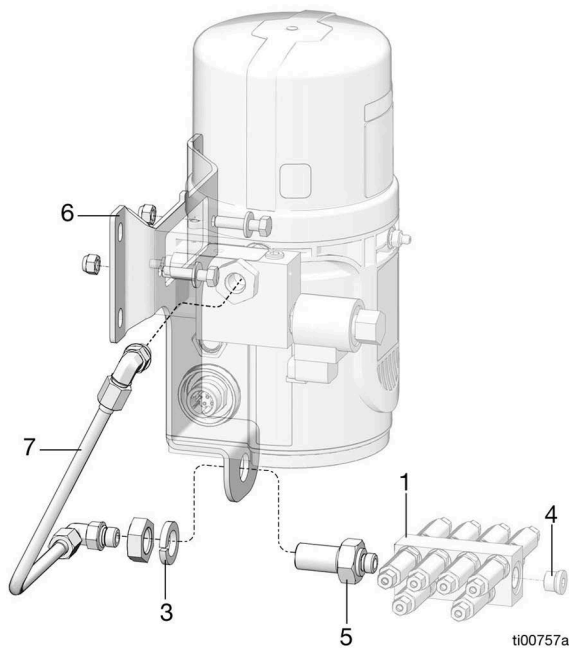

FIG. 7
The reference numbers in the following instructions refer to FIG. 7.
2. Install the new mounting bracket (6) to the pump using the new hardware.
3. Remove the nut (2), washer (3), and fitting (5) from the manifold (1).
4. Remove the plug (4) from the manifold (1) if not installed in the position shown in FIG. 7.
5. Reinstall the nut (2), washer (3), and fitting (5) into the manifold (1) and the mounting bracket (6) as shown in FIG. 7. Securely fasten into position.
6. Install plug (4) into manifold (1). Torque securely.
7. Plumb the pump outlet to the fitting (5) using fittings and tube (7) (see FIG. 7).